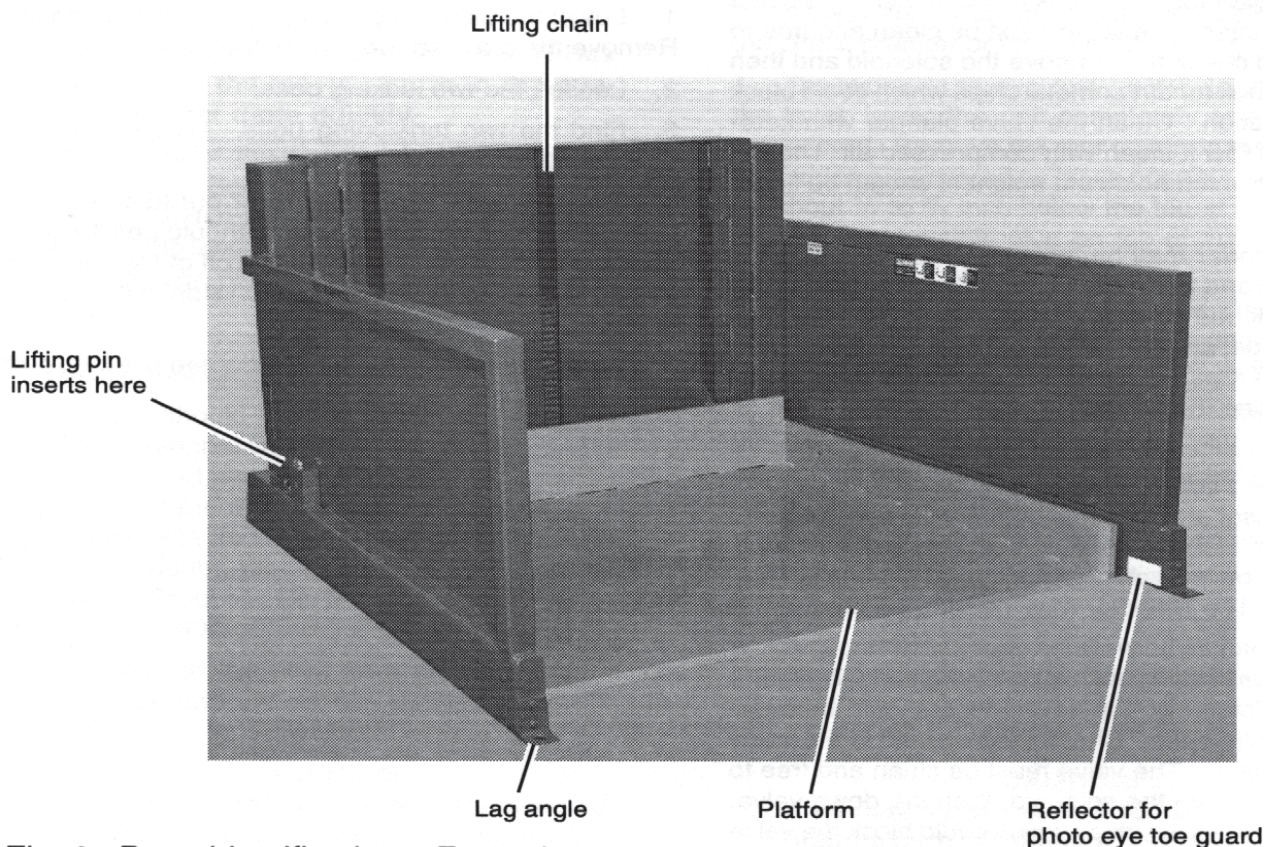

Fig. 6 Parts identification – Front view
- Do not work under the lift platform without installing the safety pins. (See Fig. 6 and the section on "Maintenance.")
This unit includes a photo eye toe guard. See Fig. 6. If something blocks the light beam, the unit will stop quickly. The control system will stop the motor and close the down valve, preventing the platform of the unit from moving down. This is designed to prevent the unit from lowering
- **You should not have to do any maintenance work with the platform raised. All normal maintenance can be done with the platform lowered. However, if you ever need to work under the platform, you must be careful to do this safely. Raise the platform until you can insert the safety pins on each side. The pins are shown in Fig. 6. Finally, unplug the power cord. DO NOT WORK UNDER THE PLATFORM UNTIL YOU HAVE INSERTED THE PINS. If you fail to do this, the platform may drop suddenly. You may be hurt.**